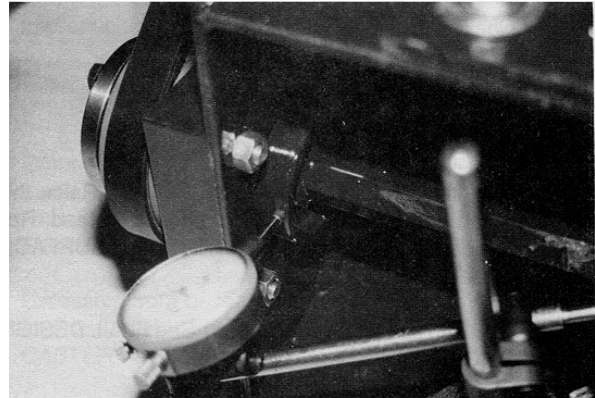

FIGURE 54
a) Position the dial indicator to measure run out on the driveshaft flange. Maximum run out (as measured by the dial indicator gauge) is $\pm .010$ inches (.254 mm). A worn flange surface may not allow an accurate measurement to be taken. FIGURE 54.